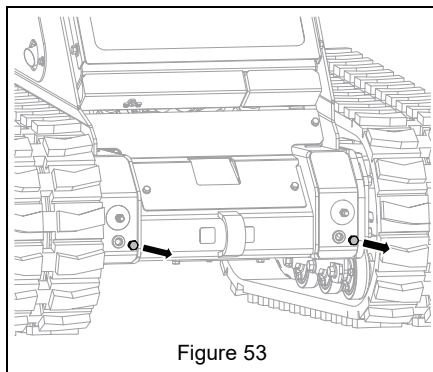

Figure 53
2. Locate two plugs in front of unit. See Figure 53.